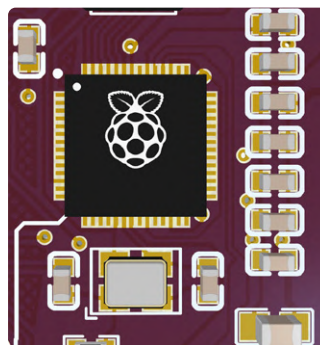

Figure 4: Crystal resonator setup.
strictly require an external oscillation source. Since this internal crystal is not as stable as needed, an external 12-MHz oscillator is recommended (Figure 4). We used the X322512MSB4SI oscillator. (Remember that we picked up the most available parts on the market, but you still can make your own selection.) The two main factors to consider about crystals are the load capacitance (LC) and the Equivalent Series Resistance (ESR). You can get the necessary parameters from the part's